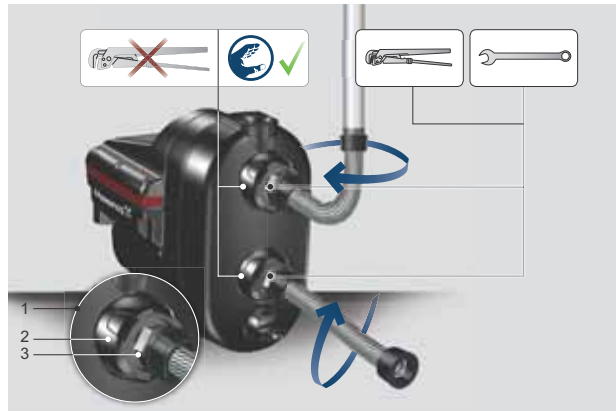

Fig. 3 How to fit the connections
1. Turn the union nuts by hand to loosen the inlet and outlet ports. See fig. 3.